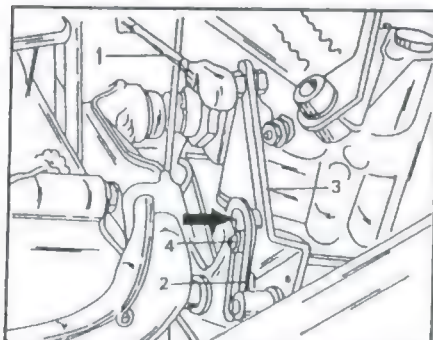

Fig. 1.105 – Details for the throttle control adjustment when an automatic transmission is fitted.
- On a vehicle with automatic transmission disconnect the adjustable connecting link (1) in Fig. 1.105 from the relay lever (3). Check if the adjuster lever on the injection pump is resting against the speed stop. Re-connect the connecting link to the lever, adjusting it if necessary to eliminate any tension. Check that the
roller (4) is resting without tension against the end stop, again without tension (arrow in Fig. 1.105).